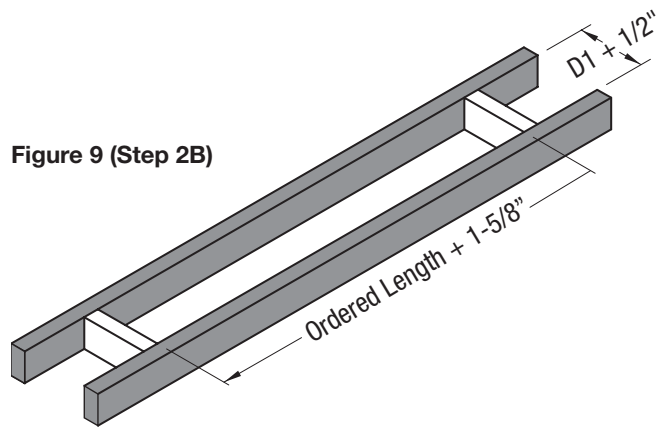
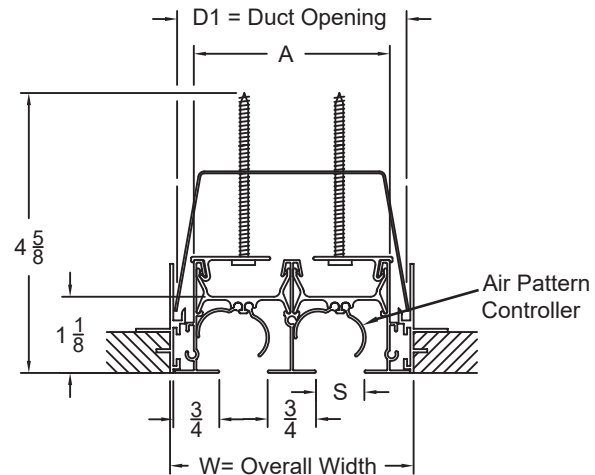

Figure 9 (Step 2B)
Figure 10 (Step 2B): LSD-BB-73 Cut Section
- B. In general, the length of the opening within the framing should be the ordered size + 1-5/8" if the unit has end borders, and if the unit has end caps, the length of the opening should be the listed size + 1/4" (see Figure 9) and the opening width should be the "D1" dimension from the Greenheck LSD-BB-73-74-75 submittal plus 1/2". For convenience, we have provided the dimensional drawing (see Figure 10) and dimension table (see Figure 11) from the LSD-BB-73-74-75 submittal (please note the most up-to-date information will be on the submittal).